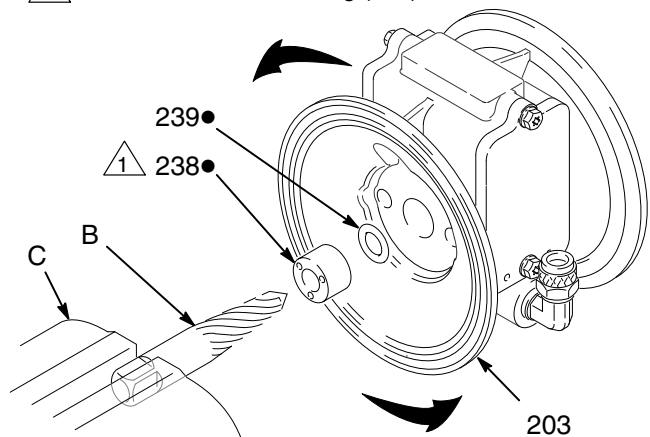

Fig. 15
5. Inspect the shaft (240) for wear or scratches. If it is damaged, check the bearings (238) also. Replace parts as needed. To remove the bearings, place a 13/32 EZY-OUT (B) in a vise (C). Position the pump housing (203) over the EZY-OUT (see Fig. 15). Turn the housing in the direction shown by the arrows to remove the bearing.
6. Hook the shaft seals (239) with an o-ring pick and pull them out of the housing (203).
- Grease the shaft seals (239●) and install them in the housing (203). Using a rubber mallet, carefully drive the bearings (238●) flush into the housing so the holes face out. See Fig. 15.